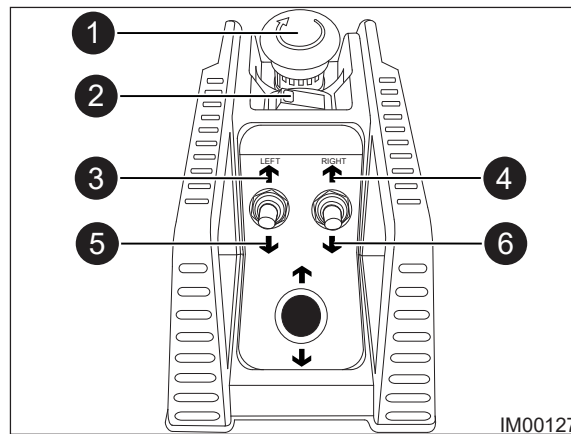

Fig: 6.3 - Umbilical Handset
3. Familiarise with the operation of the Umbilical Handset (Fig: 6.3), direction of travel, and safe tracking instructions prior to attempting to maneuver this machine.
7. Turn ON the umbilical handset by pressing the Switch (Item 2, Fig. 6.3).
- Push the Handset Off switch (Item 2, Fig: 6.3).